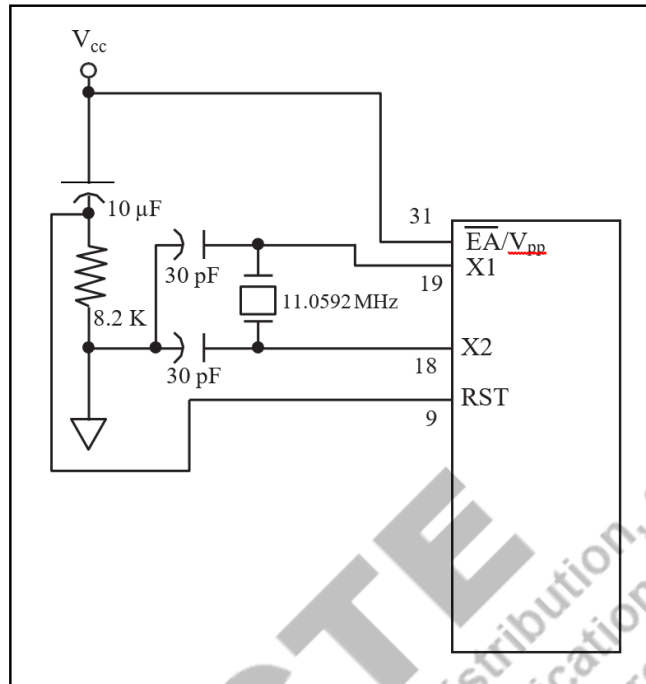
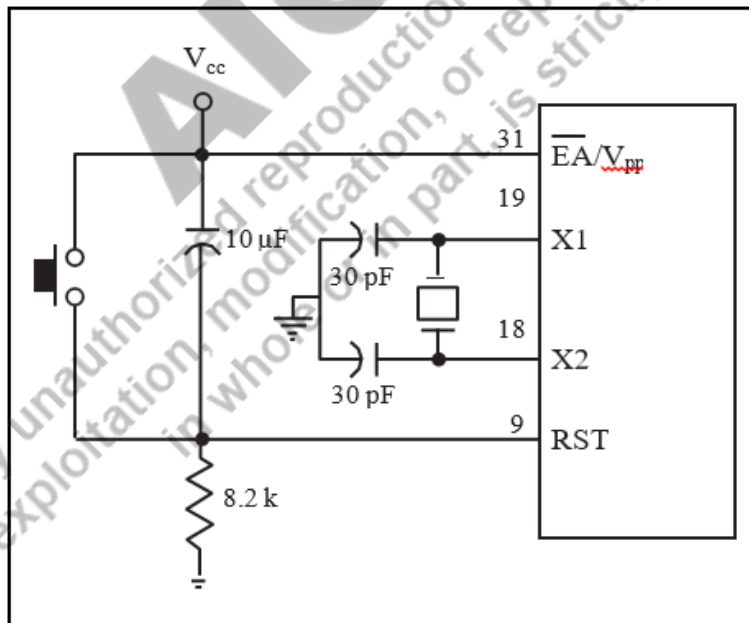

Figure 2.8: Power-On RESET Circuit [Mazidi, 2013]
Figure 2.9: Power-On RESET with Momentary Switch [Mazidi, 2013]
Pin 9 is the RESET pin, which is an active high input (normally low). Applying a high pulse to this pin resets the microcontroller, terminating all ongoing activities. This process is commonly known as a power-on reset. Activating a power-on reset will cause all register values to be lost and set the program counter (PC) to 0000H. Figures 2.8 and 2.9 illustrate two methods of connecting the RST pin to the power-on reset circuitry, with Figure 2.9 featuring a momentary switch for the reset circuit.